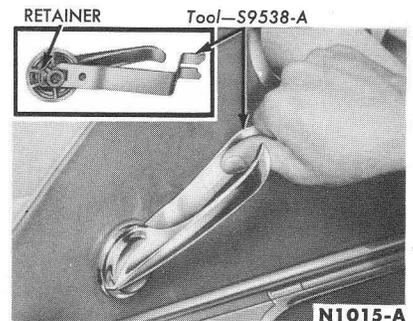
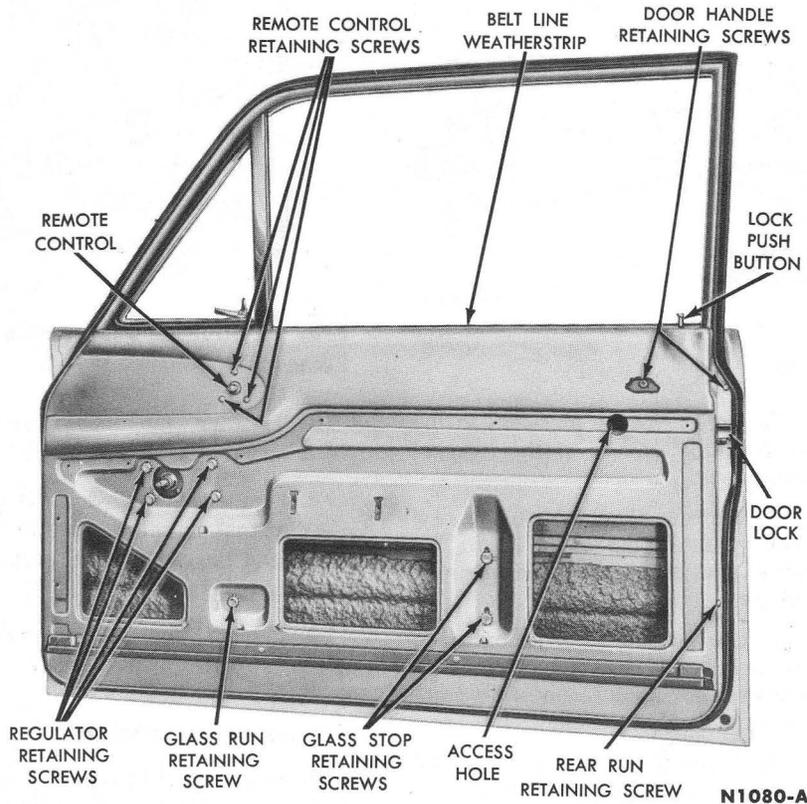

FIG. 4—Typical Inside Door Handle Removal
FIG. 5—Front Door
2. After removing the lock inside door handle (Fig. 4), remove the three remote control retaining screws (Fig. 5).